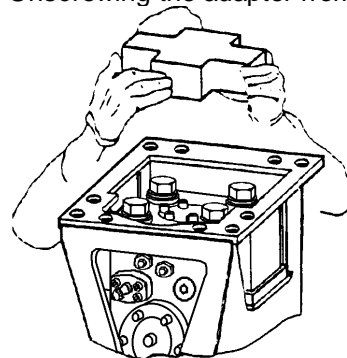

Fig. 3
- Remove elastic pad (Fig. 3).